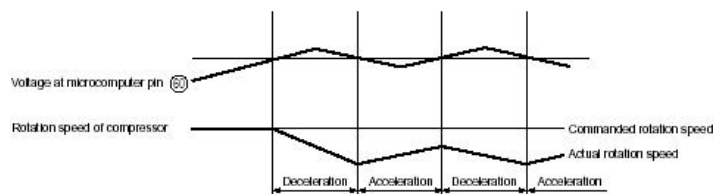

Fig. 6-3
Fig. 6-3 shows the rotation speed control. When the voltage at pin (60) of the microcomputer exceeds the set value, the microcomputer decreases the rotation speed of the compressor and reduces the load.